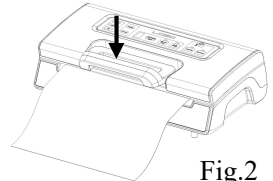

Fig.2
4. Put the top cover down and press the front handle to lock the top cover - Fig.2